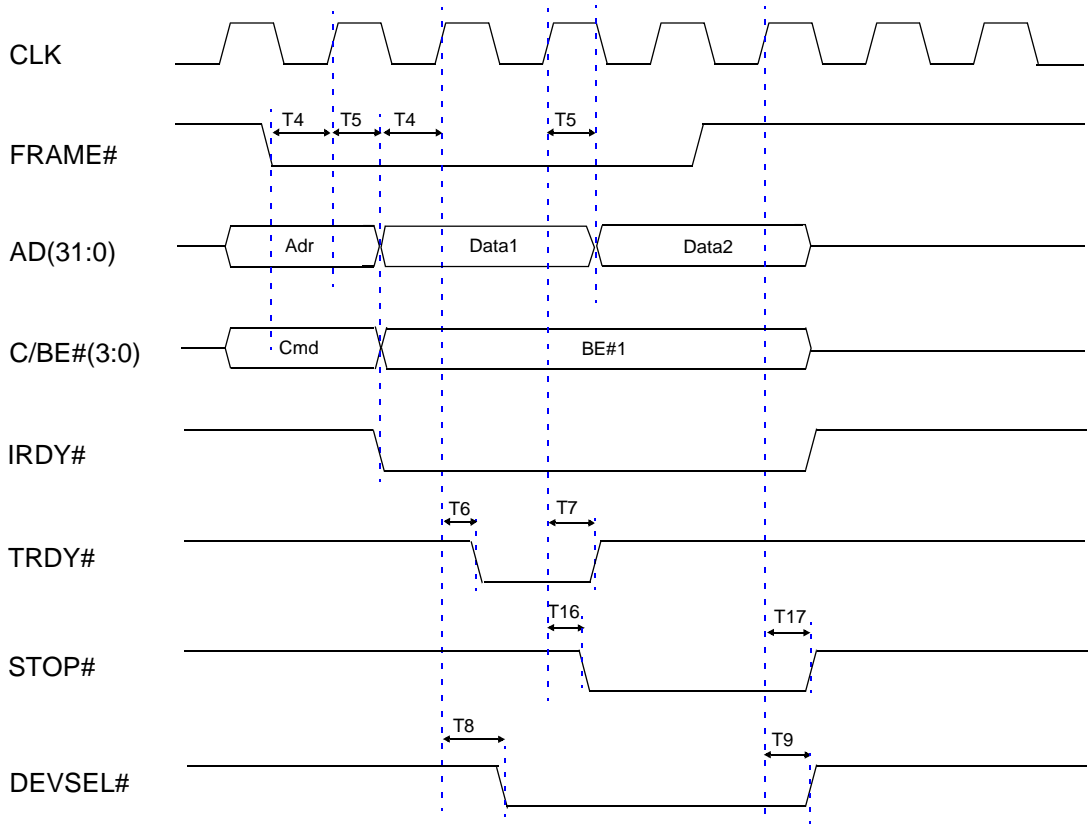

Figure 5-2. Disconnect On Burst Cycle - PCI Bus
- Disconnect On Burst Cycle, see *Figure 5-2*.